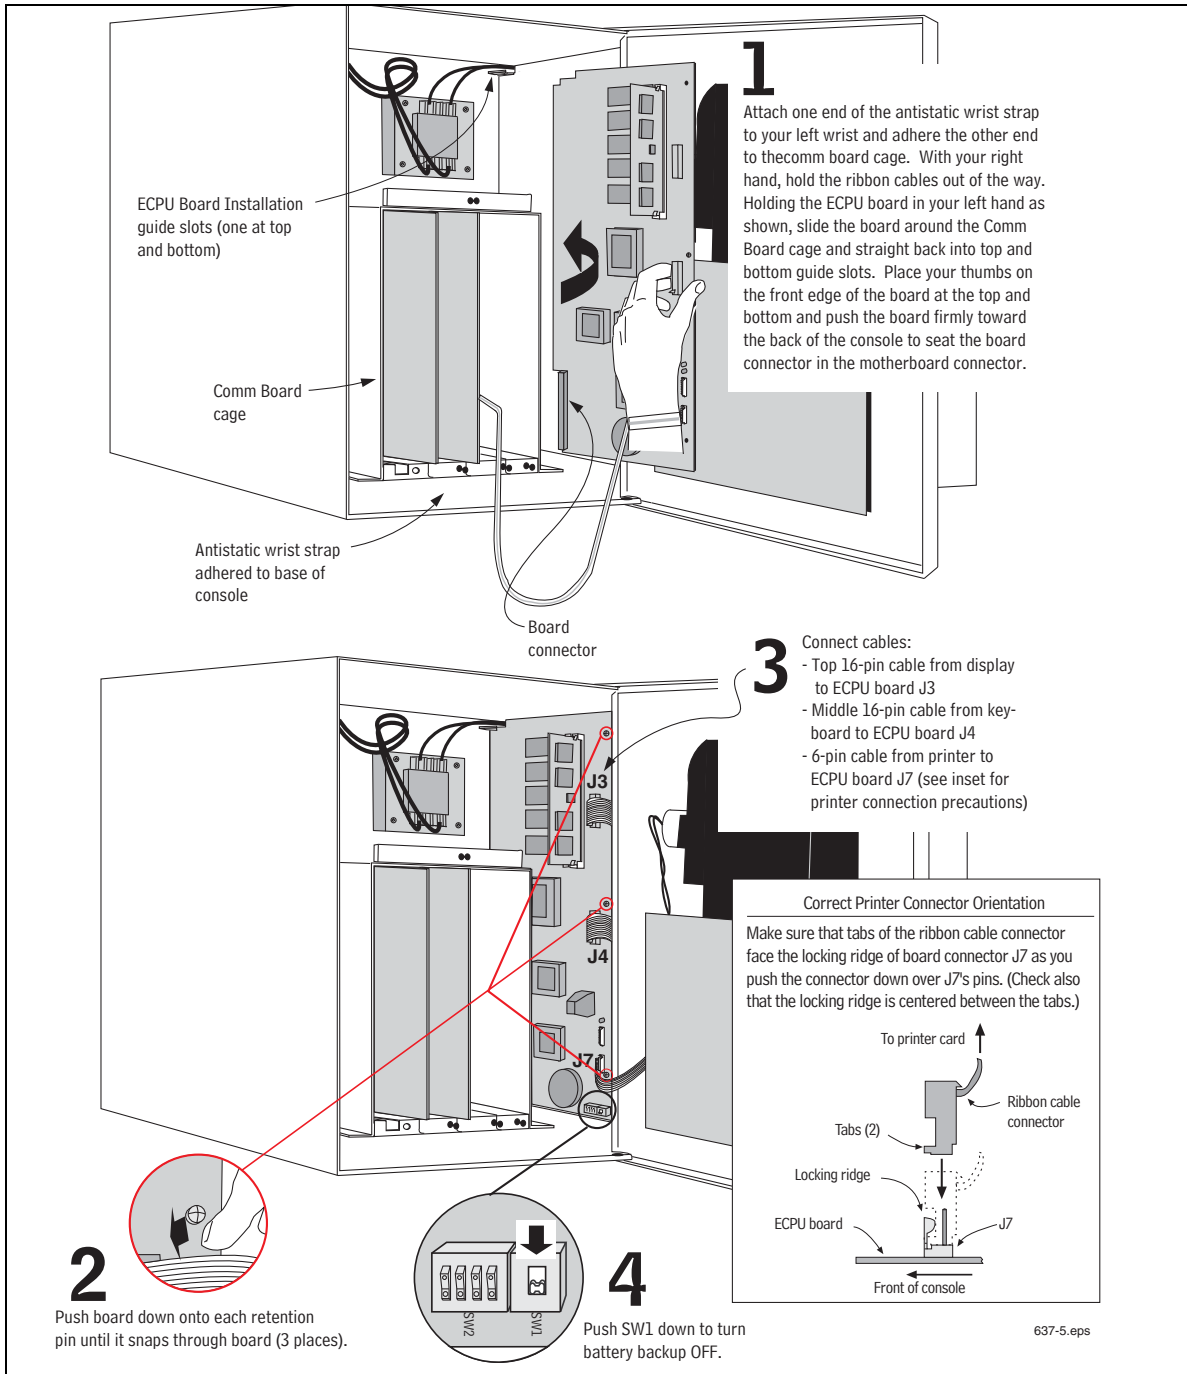

Figure 7. Installing the ECPU Board
2. Install the new ECPU board in the console following the steps outlined in Figure 7.
1. Push the Battery Backup switch (SW1) down to the OFF position (ref. step 4 in Figure 7).
6. Replace the ECPU board following the instructions shown in Figure 7 on page 11 **with one exception** - you can ignore step 4 in Figure 7 since you did not turn off battery backup when you removed the board.